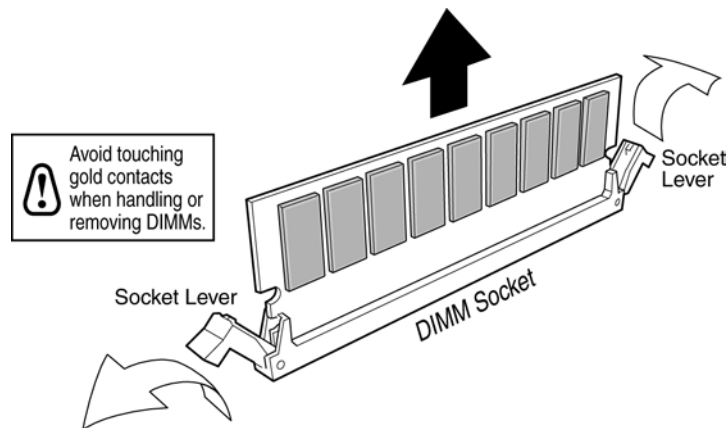

Figure 65. Removing DIMMs
6. Gently push the plastic ejector levers out and down to eject the DIMM from its connector. See *Figure 65*.